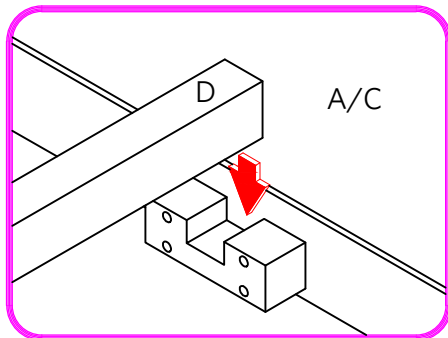

**FIGURE 02**
Place the headboard (A) upright in the position you wish the bed to be in when fully assembled. The headboard bed fast hardware should be facing inside, toward the mattress. Secure the threaded rod (1) and mini fix bolt (6) to the fixed nut in the headboard (A) by simply turning it manually. Raise the side rail (B), canopy rail (F) and place the rod (1) to align with the bore holes on the end of the side rails (B), place mini fix bolt (6) to align with the bore holes on the end of the canopy rails (F) but before that insert the mini fix nut (7) into each hole on top surface of the canopy rails (F). Use a screwdriver to adjust this nut to make sure the hole on it is inline with the bore hole on the end of the canopy rail. Put the side rails (B) and canopy rails (F) up against the headboard (A) so the threaded rods (1) and mini fix bolt (6) go through the bore holes. Insert curved washer (2), lock washer (3) and place hex nuts (4) on threaded rod (1) then tighten the hex nuts (4) with wrench (5) provided, see **FIGURE 03**. Tighten mini fix lock connect the canopy rails (F) to the HB & FB, see **FIGURE 02**